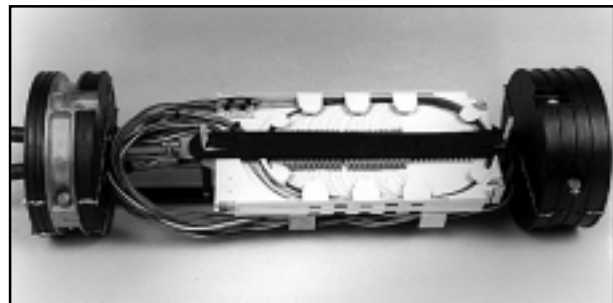

FIGURE 39 - ROUTING OF BUFFER TUBES AND SPLICE TRAY ORIENTATION
14.02 Route the buffer tubes of loose tube-type cables within the buffer tube storage clips and stack the splice trays on the threaded studs. (Figure 39)